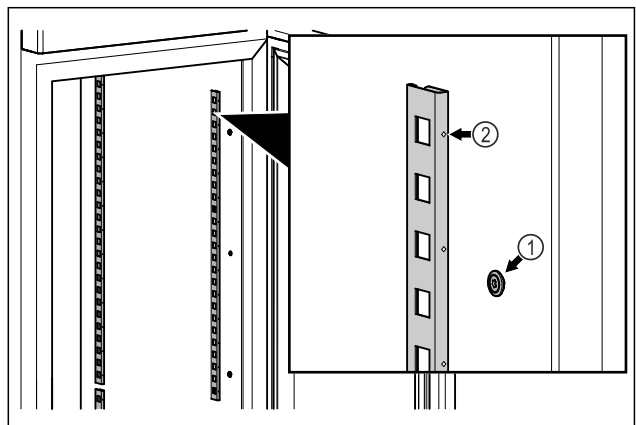

Fig. 58 Example illustration
- Hook the snap strips into the suspension Fig. 58 (1). Mark Fig. 58 (2) must point forwards.